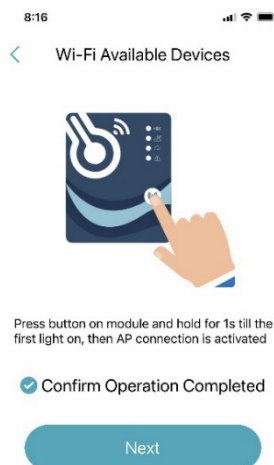

Fig. 7: Wi-Fi Module On Menu
2. Press and hold the button on the Wi-Fi module for a second until two lights turn on. This means the AP connection is activated and ready to connect. Press 'Next' (Fig. 7).